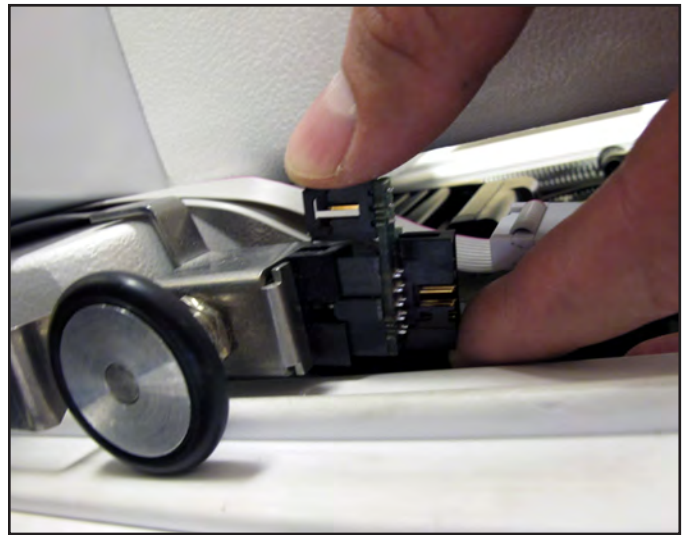

Figure 3.49
8. For HQ Sixteen only: Plug the Stitch Regulator Adapter Board (Page 3.16, P) into the Y-axis stitch regulator encoder (**Figure 3.49**).